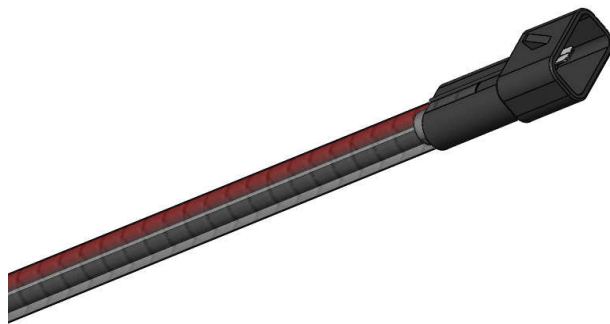

FIGURE 1-4
6. Find a suitable place in the engine bay to mount the relay and fuse holder. Once mounted route the fuel pump power wire to fuel pump and make the connections (pump power connection shown). **FIGURE 1-4**